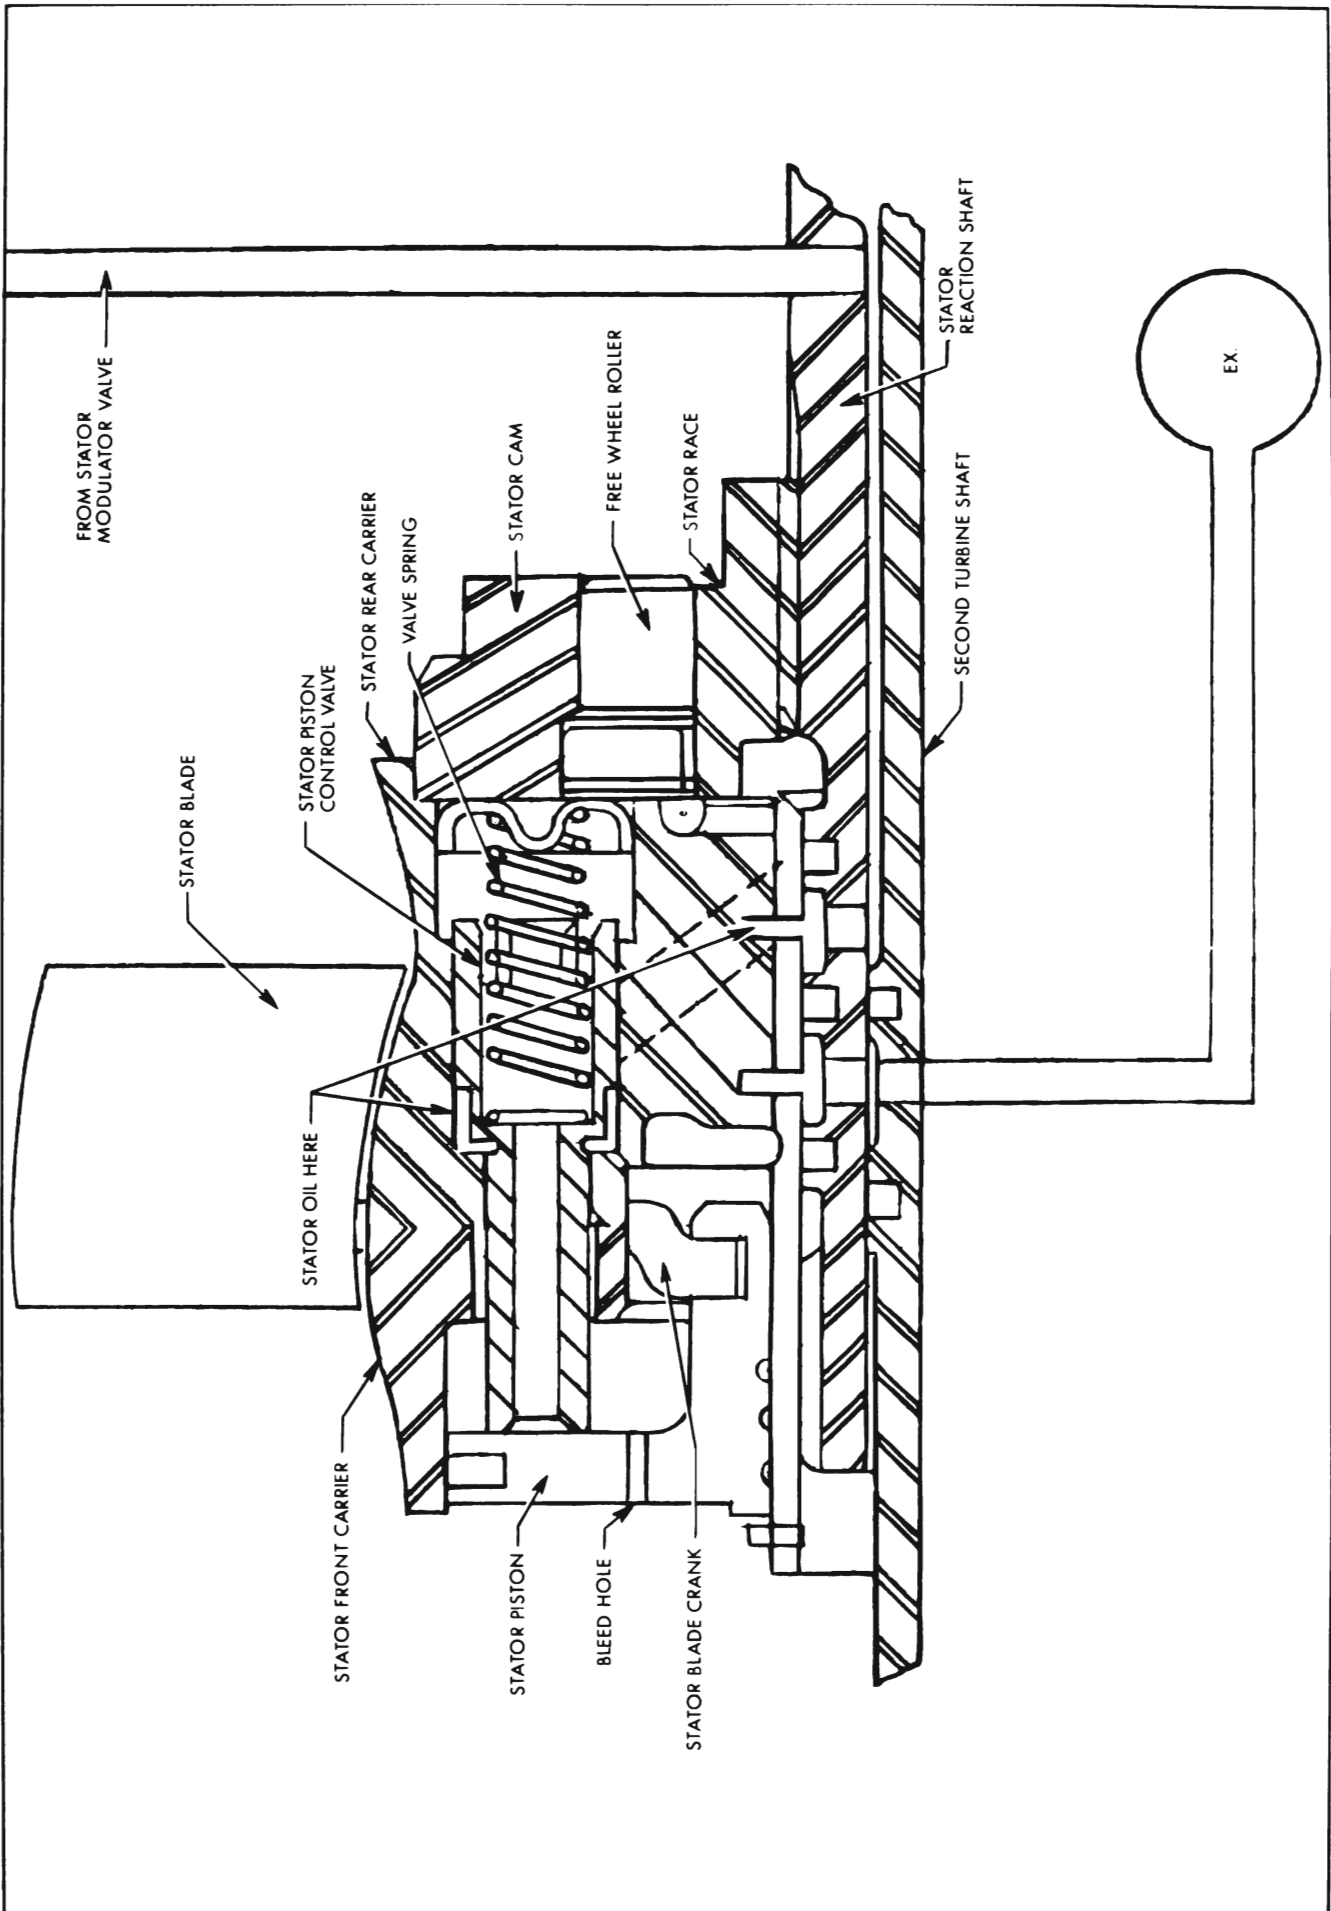

Figure 19—Flight Pitch Stator
- a. Twenty movable stator blades and cranks. See Figure 19.
- b. As the accelerator pedal is depressed beyond approximately half throttle position, carburetor linkage has moved the stator control lever which causes oil under pressure to be directed to a cavity formed by the shoulder of the stator piston control valve and the stator rear carrier. See Figure 19.